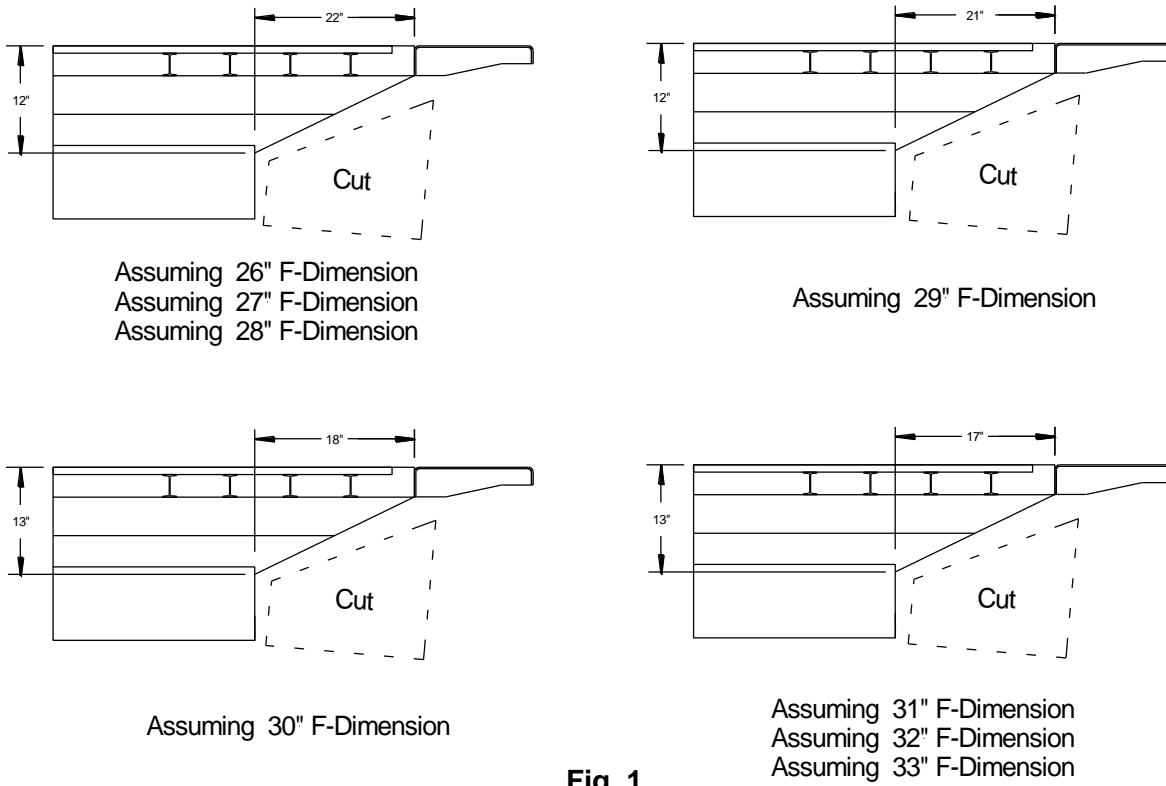

Fig. 1
1. Determine the correct frame cut out according to your specific bed height. With long overhangs it is even more important to maintain min F = Max ground clearance, **Fig. 1**.